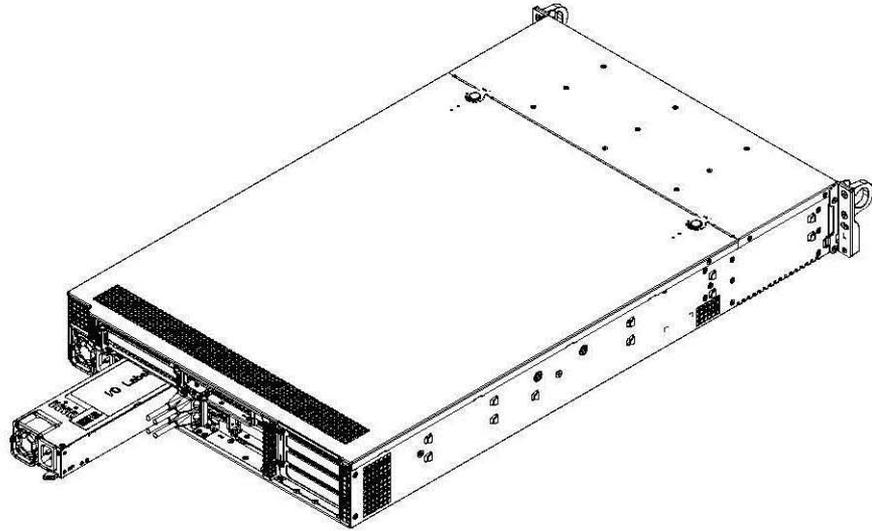

Figure 5-3 Removing the Power Supply
3. As shown in Figure 5-3, pull the power supply out using the handle provided.